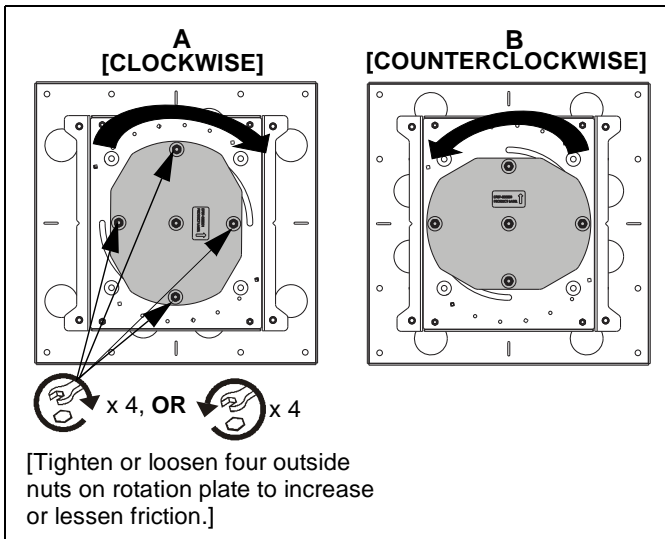

Figure 1
NOTE: The four nuts along the outside edge of rotation plate may be tightened to increase the friction of the plate, or loosened to decrease friction. (See Figure 1)
- See Drawing A (See Figure 1) to install the bracket to allow clockwise rotation when looking at the back of the display.
- See Drawing B (See Figure 1) to install the bracket to allow counter-clockwise rotation when looking at the back of the display.